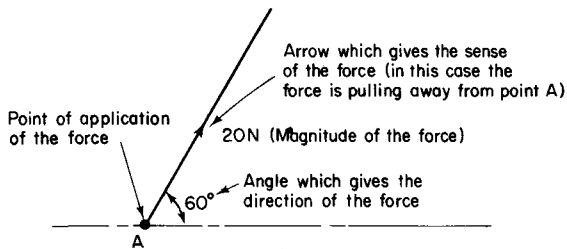

Fig. 2.10 To represent a force we need to know its magnitude, direction, point of application and sense
- (1) its magnitude (or size);
- (2) its direction;
- (3) its point of application;
- (4) its sense (i.e. does it pull away from the point of application or does it push towards it?). The method used is shown in the following example.
**Example.** Represent graphically the force shown in Fig. 2.10.